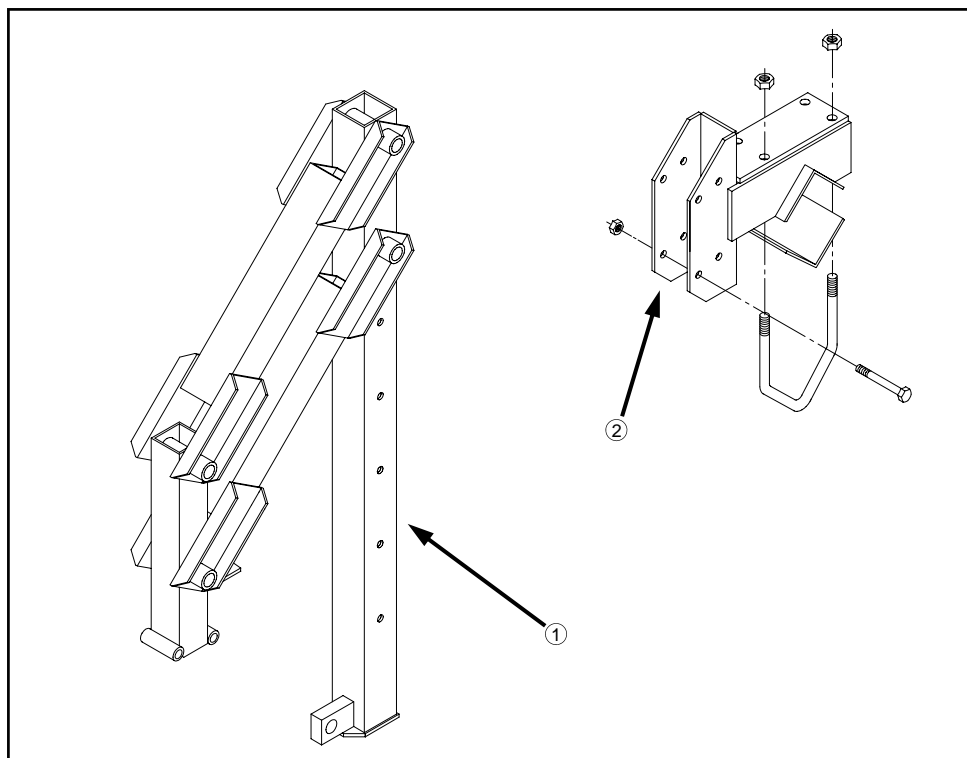

FIG 3.10
1. Attach the lift mounts (fig. 3.10, item 2) to the tool bar and outriggers at the appropriate spacings.
2. Attach the lift arms (fig. 3.10, item 1) to the lift mounts.